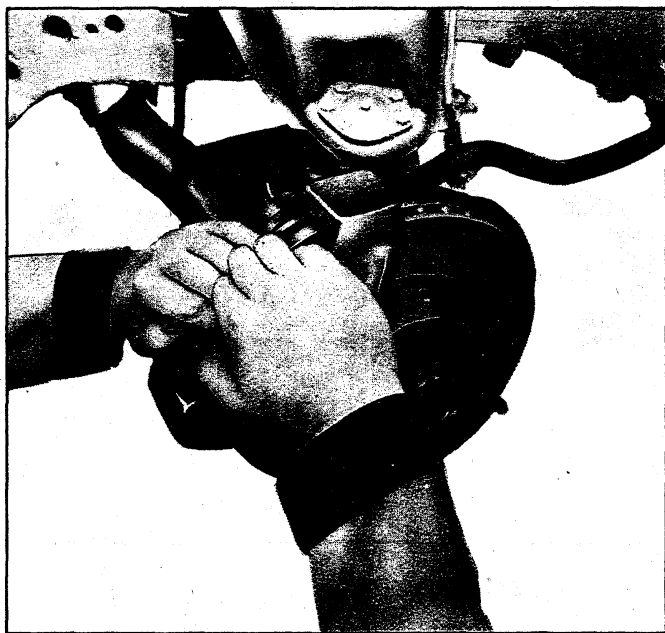

Fig. 42—Installing Caliper on Disc
1. Carefully mount the assembled caliper over the edge of the disc. Use a putty knife to depress pistons so that the caliper can be lowered into position on the disc (fig. 42). Use care to prevent damage to boots on the edge of the disc as the caliper is mounted.